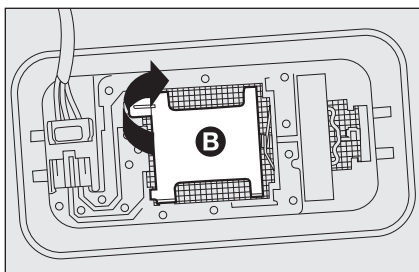

fig. 33
- open the cap **B**-fig. 33 as indicated;